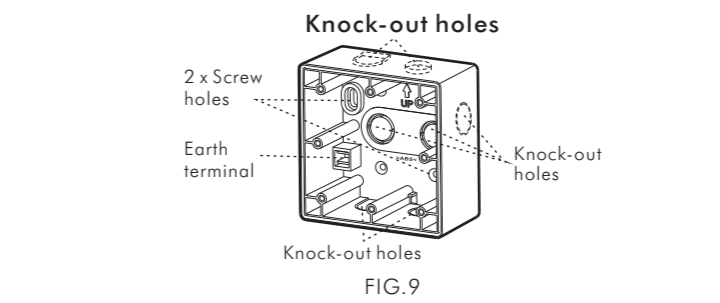

FIG.9
- 3.4.2.1 surface accessory's 7 knock-outs are designed for various applications (See FIG.9). Break the knock-out you intend the wires going through, then insert the wires into the corresponding hole.
- 3.4.2.2 Fix Surface accessory on the wall with two Φ4 x 25.4mm wood screws (See FIG.11-A). Refer to FIG.9 for position of screw holes.